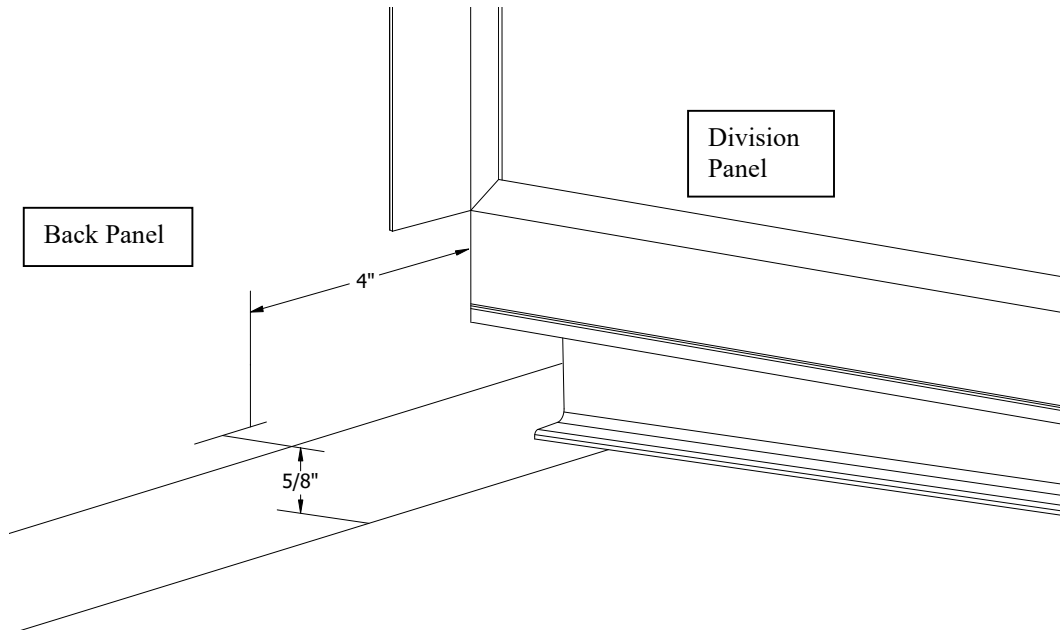

Figure 1.
1. Beginning from point on the back panel that is level with the front edge of the floor trench drain, measure up  $5/8$ " and make a mark on the wall. From the side of the division panel measure in approx. 4" and make another mark. Repeat for the opposite side of the run. See Figure 1.